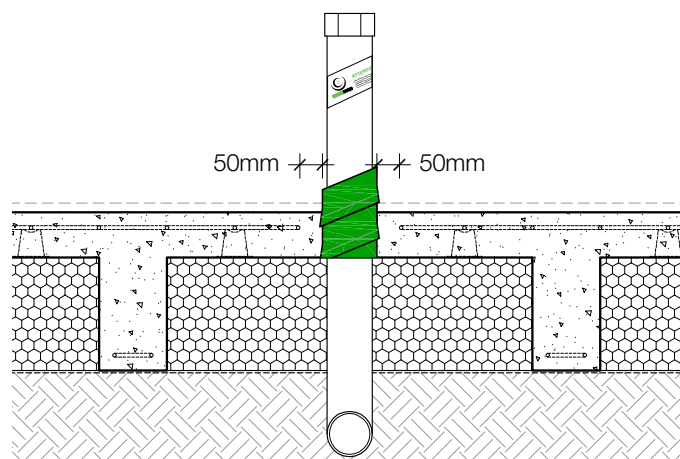

FIGURE 5.8 A
- c. then continue to wrap the pipe in a circular motion angled upwards at approximately 22 degrees (see figure 5.8 A) ensuring that the GREENZONE® EFTS has a minimum lap of 20mm and continue until GREENZONE® EFTS wrap exceeds the height of the concrete floor by a minimum of 100mm,
3. Once the GREENZONE® EFTS has been securely attached to the penetration, use the paper backing removed from the adhesive side of the GREENZONE® EFTS to wrap the top section of the penetration, using a clear tape to secure it to the penetration. (See Figure 5.8 A) Refer to section 10.1 for more details.
NOTE: A minimum gap of 50mm is required from the edge of the GREENZONE® EFTS to any reinforcement mesh or bar chairs. (See figure 5.8 A). Refer also to waffle pod supplier installation information and or seek engineering advice.